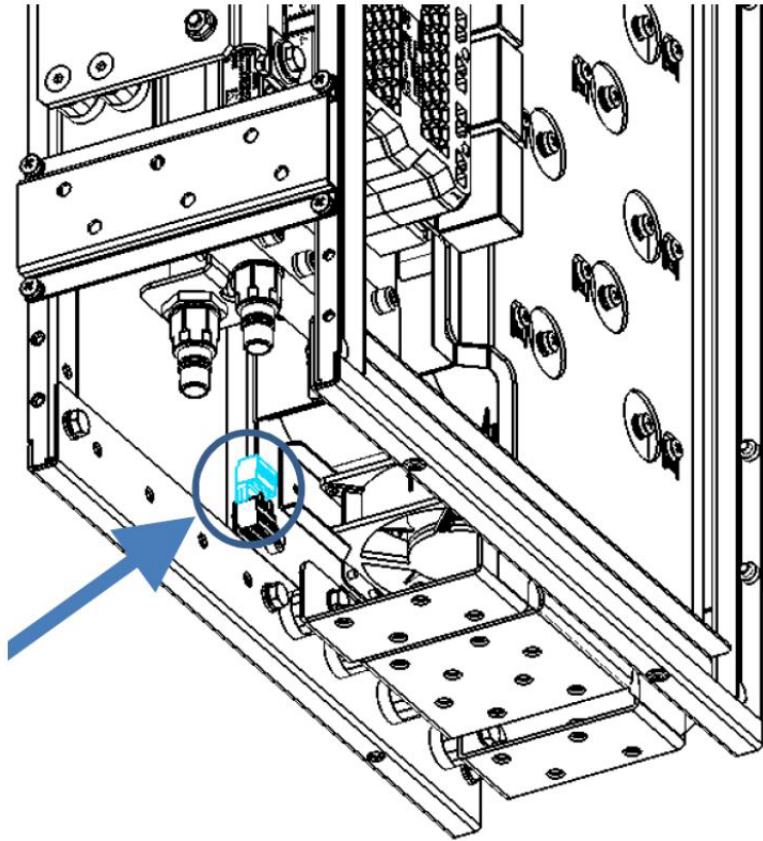

Figure 6.2: Step 1 to remove the fan
- Step 1: Disconnect the fan power supply connector, Figure 6.2 on page 6-12.